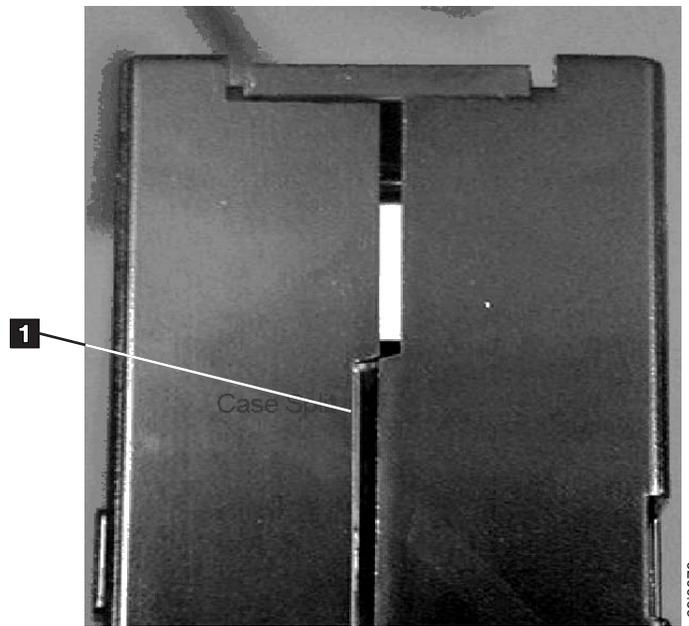
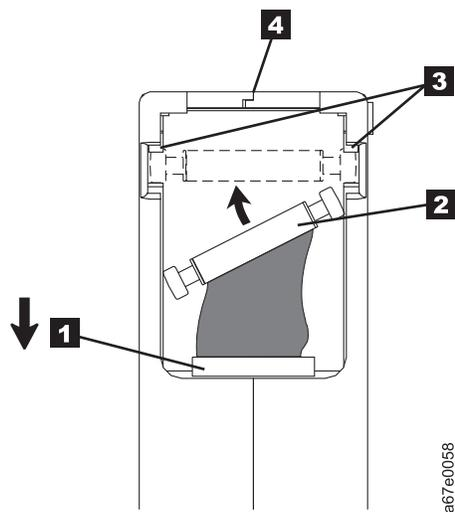

Figure 4-7. Checking for gaps in the seams of a cartridge
Figure 4-9. Placing the dislodged leader pin into the correct position. The cartridge door is open to show the leader pin.
- Inspect the rear of the cartridge (the part that loads first into the tape load compartment) and ensure that there are no gaps in the seam of the cartridge case (see **1** in Figure 4-7 on page 4-10 and **4** in Figure 4-9 on page 4-12). If there are gaps in the seam (see Figure 4-7 on page 4-10), the leader pin may be dislodged. Go to “Repositioning or Reattaching a Leader Pin” on page 4-11.
### Example: Split Cartridge Case (see Figure 4-7)
1. Slide open the cartridge door ( **1** in Figure 4-9) and locate the leader pin **2** (you may need to shake the cartridge gently to roll the pin toward the door).